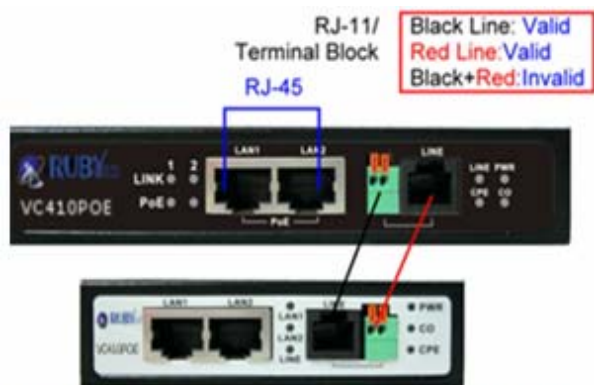
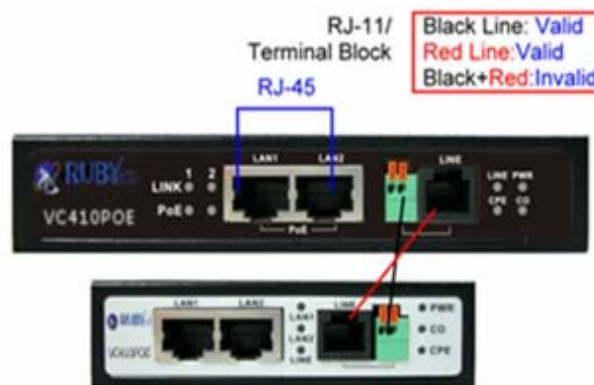

Figure 2.4 NV-202P line ports straight connection
Figure 2.5 NV-202P line ports crossover connection
The line port has 2 connectors: RJ-45 and terminal block. It is used to connect from VC-410 & VC410POE(CO) using single pair phone cable to VC-410 & VC410POE(CPE) side (point to point solution). Take note that VC-410 & VC410POE line port cannot be used at the same time. Either RJ-11 port is connected or terminal block is connected using straight connection (Figure 2.4) or cross-over connection (Figure 2.5)